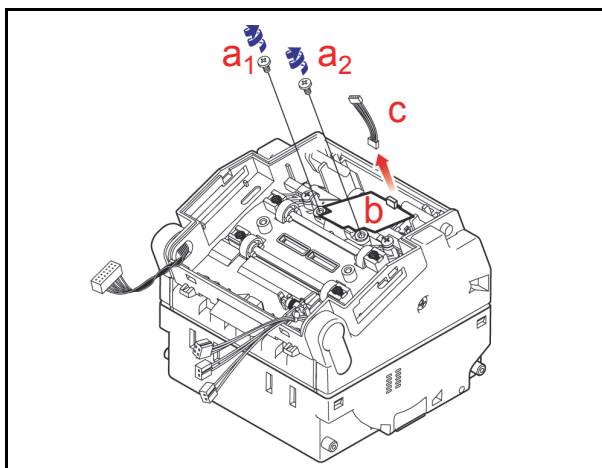

Figure 4-4 Taiko MAG Circuit Board Disconnect
2. Remove the two (2) Circuit Board Mounting Screws (See Figure 4-4 a₁ & a₂) from the MAG Circuit Board (See Figure 4-4 b).
3. Remove the MAG Circuit Board’s associated short interboard Harness Connector (See Figure 4-4 c).